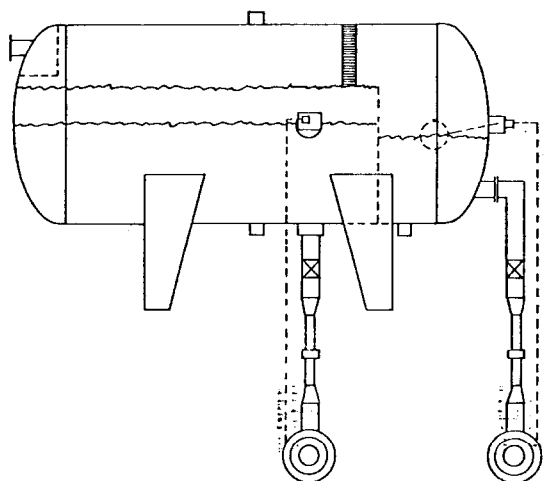

FIGURE 10
- F. Same as three-phased with spillover weir and oil compartment except mist extractor has been added. Some people add a dome with mist extractor, but the internal type is able to handle larger volumes (see Figure 10).